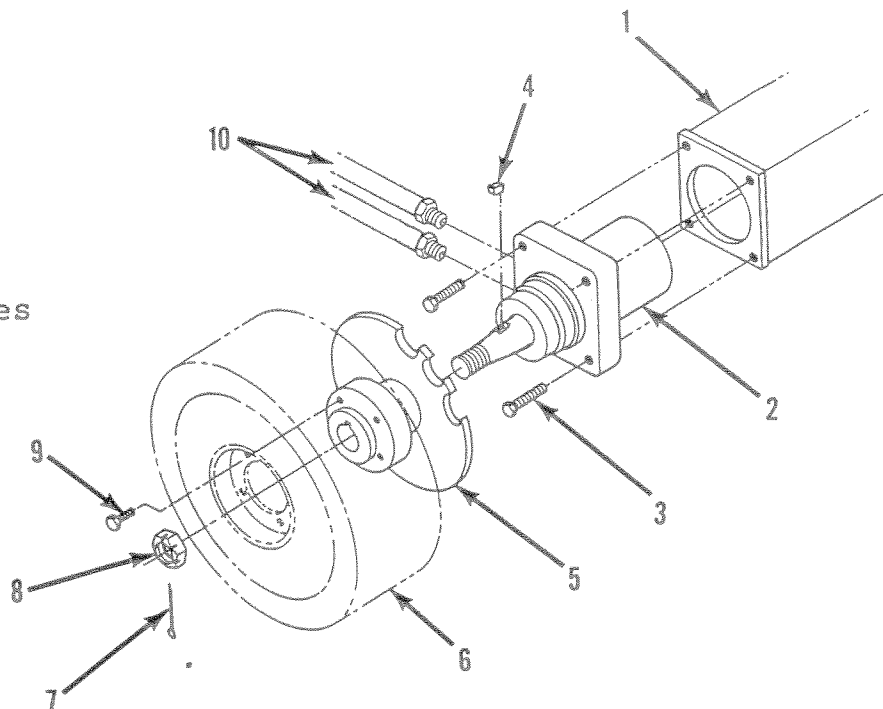

Figure 5-10. Drive Motor Removal
5-19. HYDRAULIC DRIVE MOTORS AND HUBS (Figure 5-10).
(1) Back up rear axle and block the wheels to prevent the work platform from rolling when the brake is removed.
(2) Disconnect motor tube assemblies (10, Figure 5-10) and plug.
(3) Remove the capscrews (3, Figure 5-10) and remove motor, hub and wheel assembly as a unit from rear axle.
(4) Disconnect the tube assemblies (1,17) and cap the openings to prevent foreign material from entering.
(5) Remove the capscrews (2), flatwasher (3) and locknuts (11) to remove the cylinder (4) from the rear axle.
(1) Install the piston seal (13) on the piston (12) then assemble the static seal (14), shaft (11) and piston (12).
(2) Position the spring (15) and stop tube (16) on the shaft assembly.
(3) Lubricate the piston seal (13) with clean hydraulic fluid, then install the shaft assembly in the cylinder barrel (4).
(4) Lubricate the seals (7,8) with clean hydraulic fluid and install on the head cap (6).
(5) Install the shaft seal (10) and wiper (9) within the head cap (6).
(6) Lubricate entire assembly's seals (7,8) and the shaft seal and wiper (10,9) with clean hydraulic fluid then install the head cap (6) onto the shaft (11) and into the cylinder barrel (4).
(7) Secure with snap ring (5).
(8) Position the brake cylinder assembly on the rear axle so that the shaft (11) will fully engages the brake disc, however the shaft must clear the brake disc once retracted. Secure with capscrews (2), flatwashers (3) and locknuts (18).
(9) Connect the tube assemblies (1,17).
(10) Place wheel hub and motor assembly in axle and attach with capscrews (3, Figure 5-10).
(11) Connect motor tube assemblies (10, Figure 5-10).
(12) Operate the brake retract circuit and check that the shaft clears the brake disc. Check for leaks.